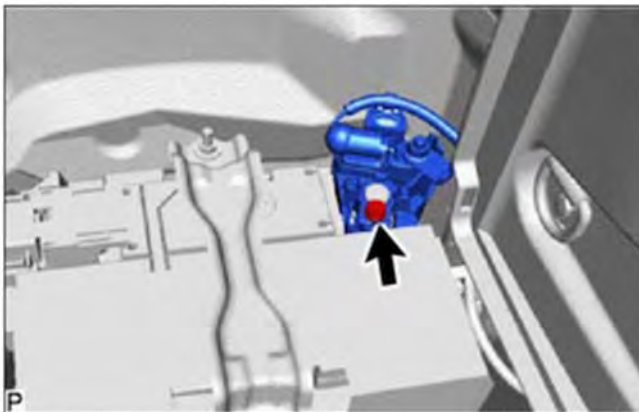

Figure 5
- (c) Loosen the 10mm nut and disconnect the cable from the negative (-) auxiliary battery terminal. Figure 5.